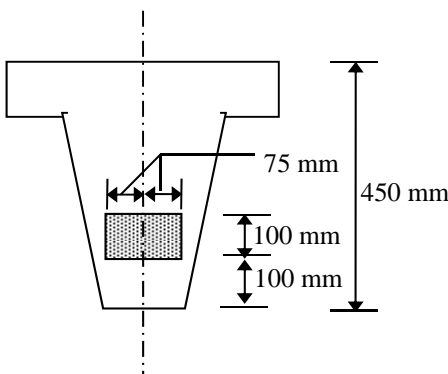

Fig. 2
- A solid steel beam (Fig. 2) was loaded in laboratory in pure bending about a horizontal neutral axis. Strain measurements showed that the top fibers contracted 0.0003 m/m longitudinally, the bottom fibers elongated 0.0006 m/m longitudinally. Determine the total normal force which acted on the shaded area indicated in the figure. $E = 200$ GPa.